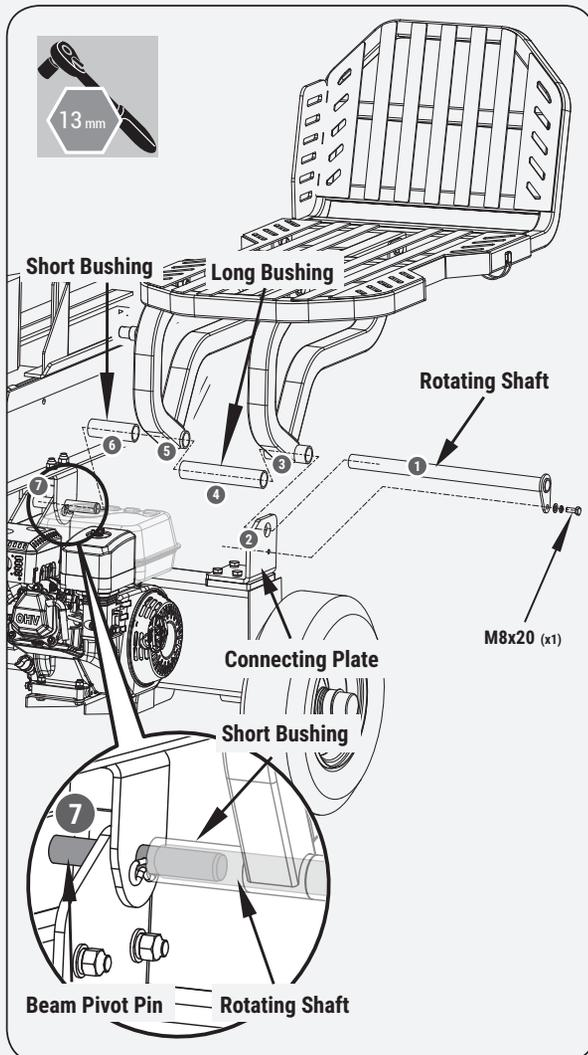

Figure 21b
2. Pass the rotating shaft through the connecting plate, right support leg, long bushing, left support leg, and short bushing in sequence, and finally, wrap it outside the beam pivot pin, then fix it on the connecting plate with M8x20 bolts and washers. (See **Figure 21b.**)